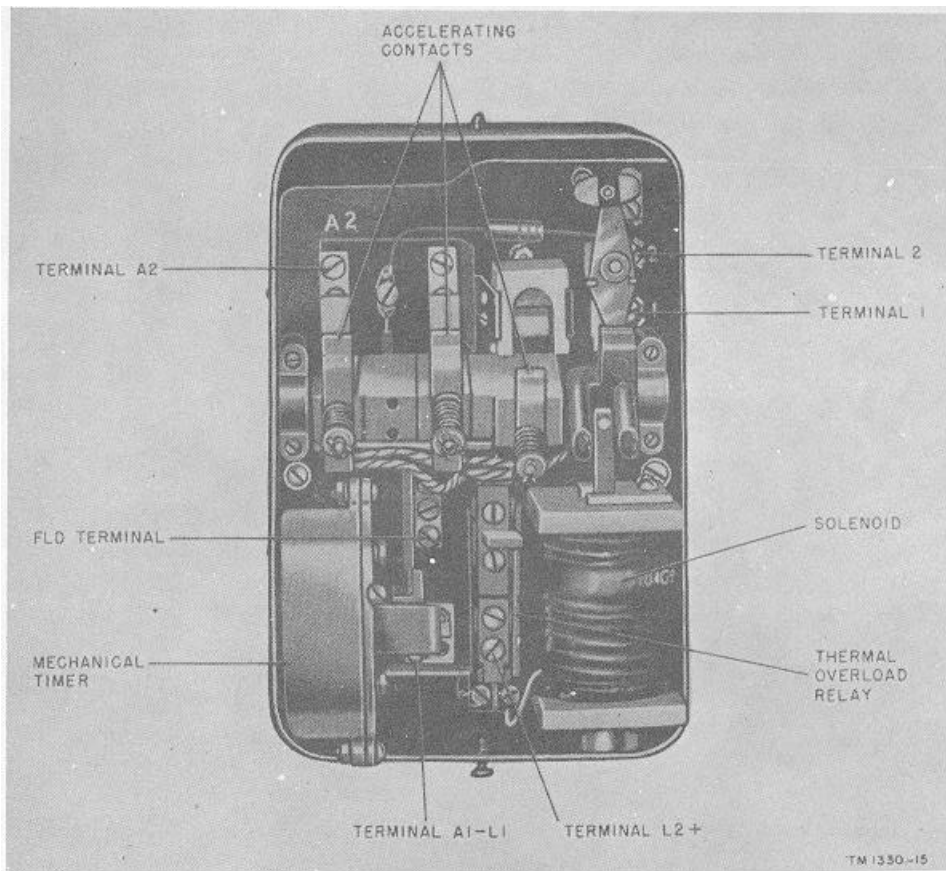
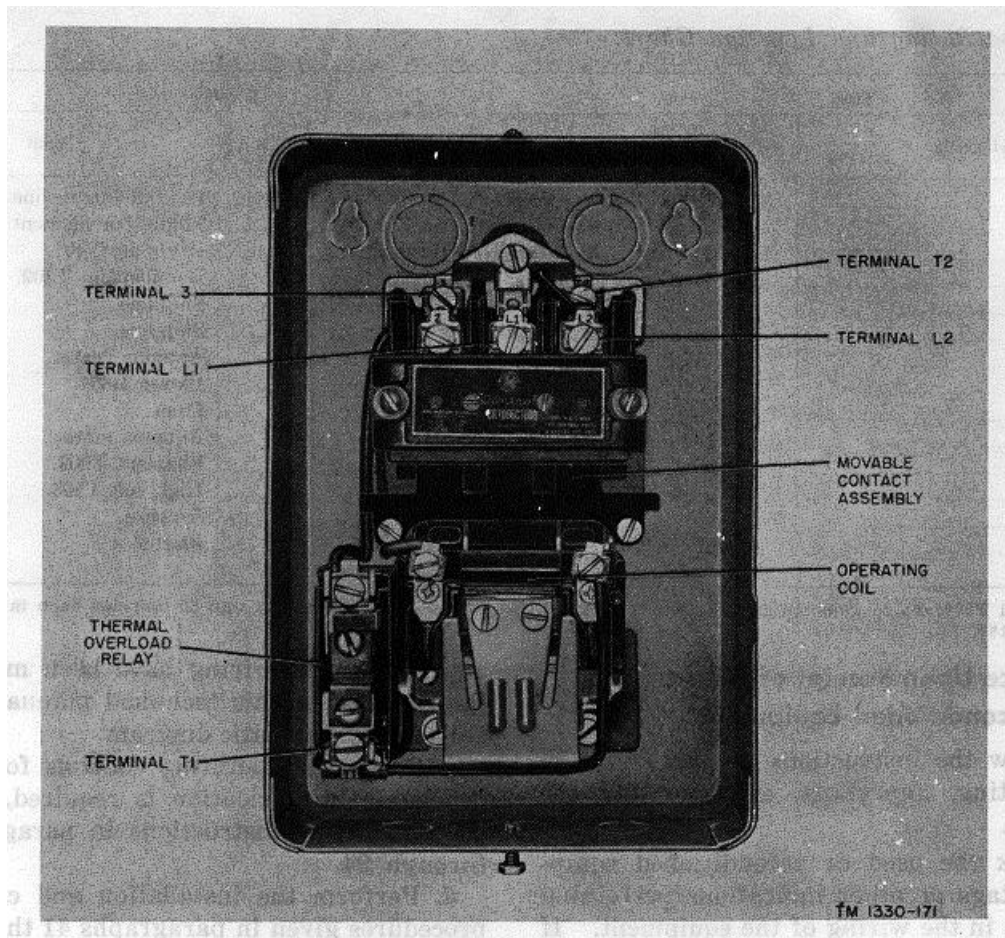

Figure 52. Motor starter terminal board.
Figure 53. Circuit breaker terminals.
(2) Connect the seven conductors of cable W709 to terminal board TB601.
(3) Connect cable W710 to terminals 12 and 14 of terminal board TB601.
e. *Motor Starter or Circuit Breaker.* Connect the seven conductors of cable W709 to the motor starter (fig. 52) or circuit breaker (fig. 53).